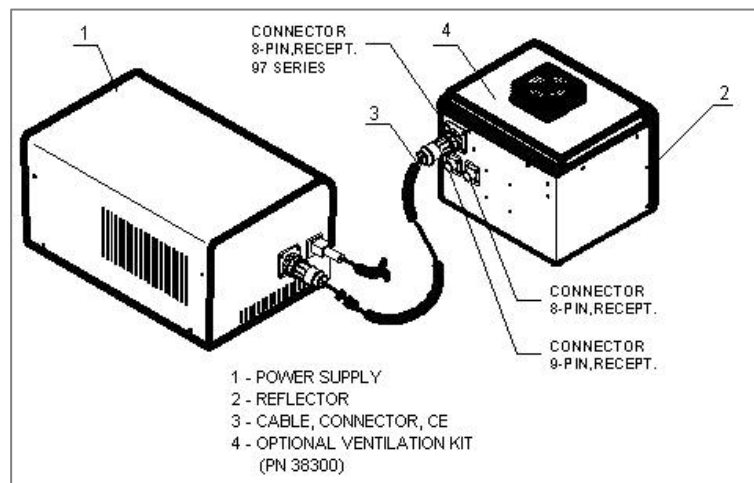

Figure 2. Filter Glass Installation
- Place the Reflector Housing (1) up-side down as shown in Figure 2.
- Loosen the screws securing the Reflector Bracket (3).
- Slide the Filter Glass (2) under the brackets and adjust it symmetrically over the reflector aperture.